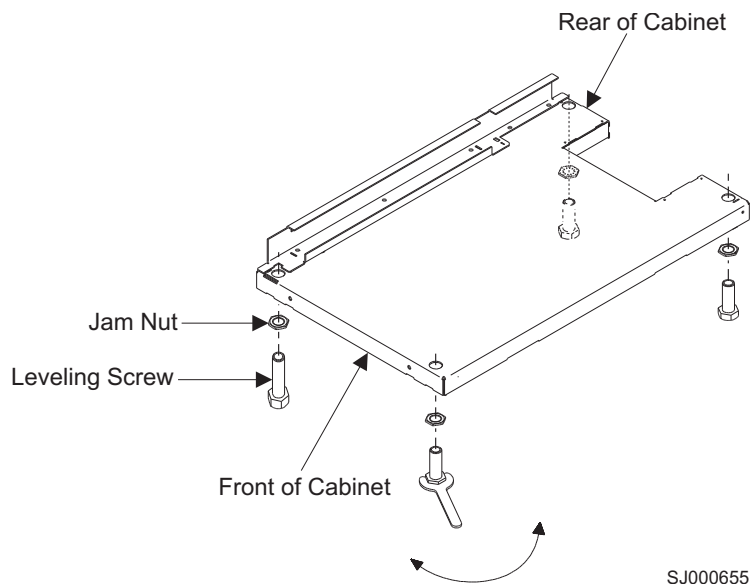

Figure 89. Leveling the rack
27. Adjust the leveling feet downward, as needed, until the rack is level. See Figure 89. When the rack is level, tighten the jam nuts against the base by turning the jam nut clockwise (toward the bottom of the rack). Torque the four bolts to 54–67 nm (40–50 ft-lbs).